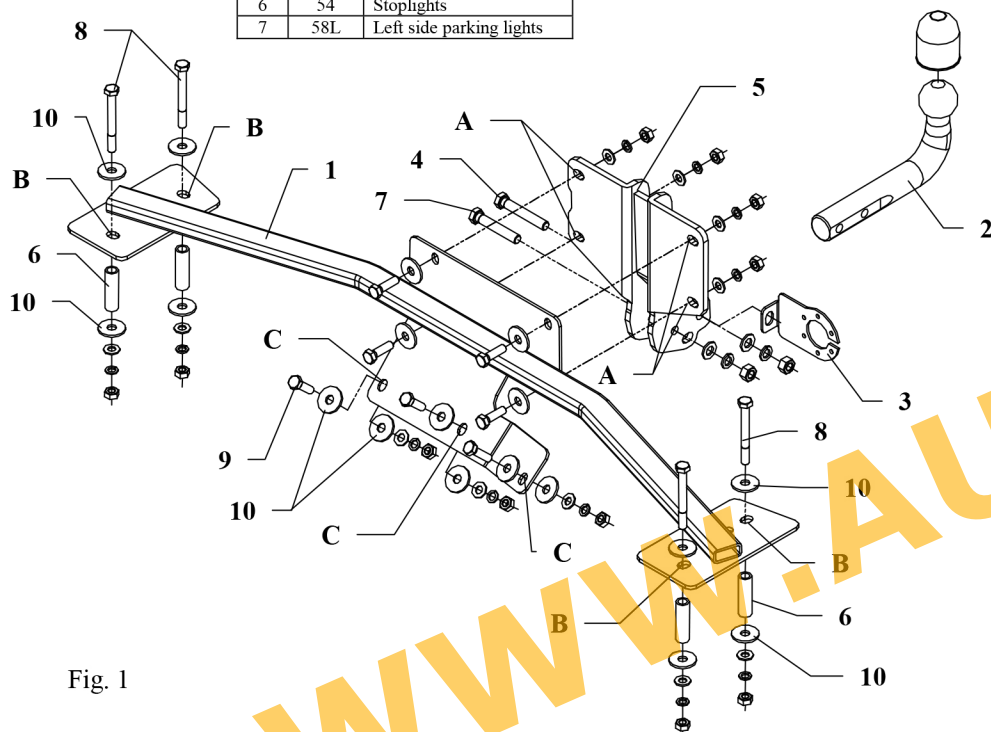

Fig. 1
8. Fix tow ball (pos. 2) using bolt M12x75mm (pos. 4) and M12x70mm (pos. 7). With bolt M12x75mm fix also a socket plate (pos. 3). See figure 1.